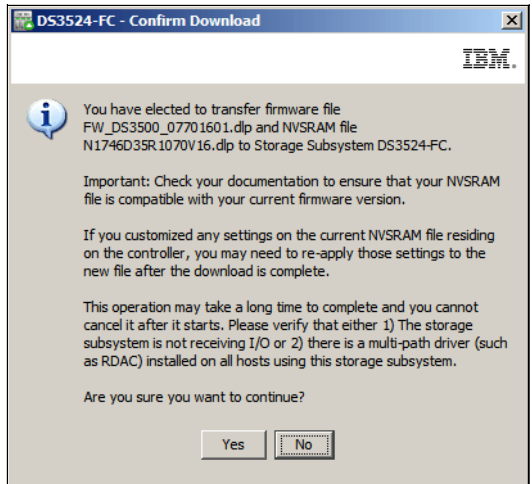

Figure 14-71 Confirm Download
- Click **Transfer** to submit the new microcode to the storage subsystem. The Confirm Download window appears (Figure 14-71). Read it and click **Yes** to continue.